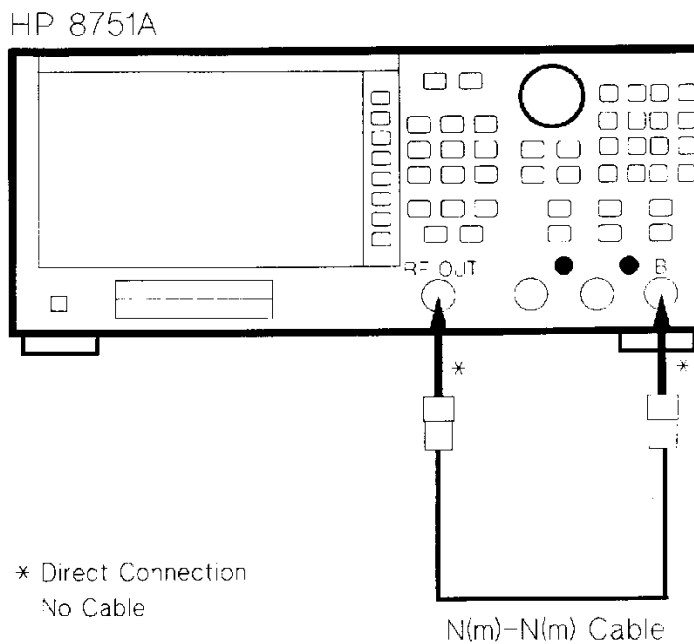

Figure 3-1 Input-B 2nd IF Mixer Tracking Adjustment Setup
2. Connect the N(m)-N(m) Cable as shown in Figure 3-1.